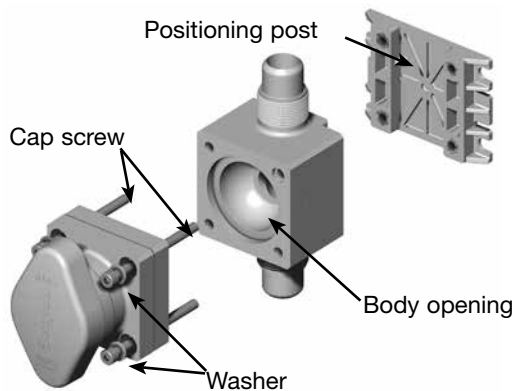

Fig. 10
- Place the valve body on the mounting plate, aligning the notch on the bottom of the valve body with the positioning post on the mounting plate (Fig. 10).
- Place the actuator housing onto the valve body, seating the diaphragm in the body opening (Fig. 10).